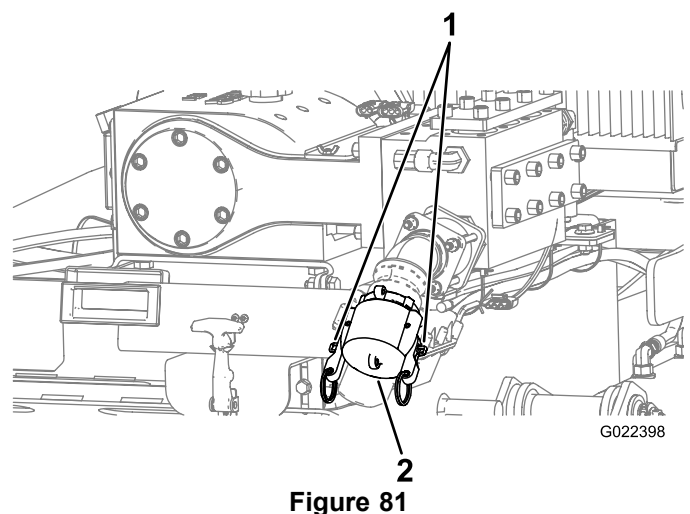

Figure 81
1. Raise the cam-lock levers on the pump-inlet cap and remove the cap (Figure 81).